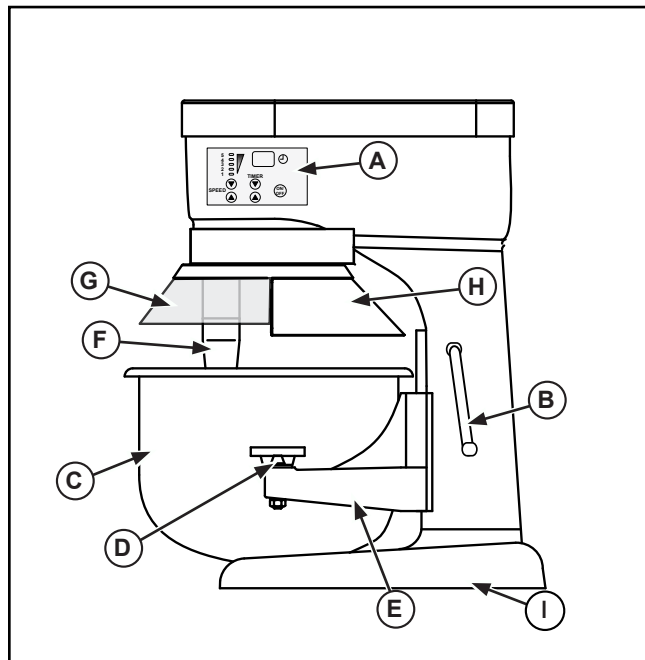

Figure 1. 7 Quart. and 10 Quart. Mixer, Features and Controls.
2. Before attaching the bowl select the mixing attachment you will be using. Place your selected mixing attachment inside the empty bowl (C). Do not attempt to fit the mixing attachment onto the mixing shaft (F) before the bowl is in position. See Figures 1, 2, 3 or 4.
3. Lower the bowl cradle to its lowest position by rotating the bowl lift (B).
4. Rotate the bowl clamp levers (D) to the out or back position.
5. Hold the bowl (C) so that the pin on the bowl is facing in towards the mixer. Position the bowl so that the pin is lined up with the pin slot on the bowl cradle (E). Slide the pin into the slot.
6. Align the holes on the bowl tabs with the pins on the bowl cradle (E). Set the bowl (C) on the bowl cradle (E).
7. Rotate the bowl clamp levers (D) to the front over the bowl tabs to secure the bowl (C) onto the bowl cradle (E).
8. Install the attachment to the mixing shaft (F). Ailing the grove on the attachment with the pin on the mixing shaft. Push the attachment up and rotate to lock onto the pin.
9. Raise the bowl (C) to its maximum height using the bowl lift (B) by rotating in a counter clockwise direction until it snaps into place.
1. Close the bowl guard (G). See Figure 1. The safety guard must be closed for the mixer to operate. If the safety guard is open or not closed properly then the mixer will not operate.